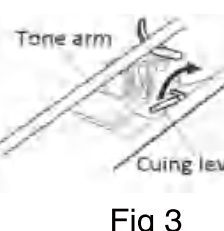
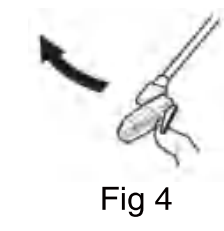

Fig 3
Fig 4
8. Use the cueing lever to lift the tone arm (fig 3) and move the arm (fig 4) so that the stylus is positioned just inside the edge of the record or aligned with the start of the track to be played.